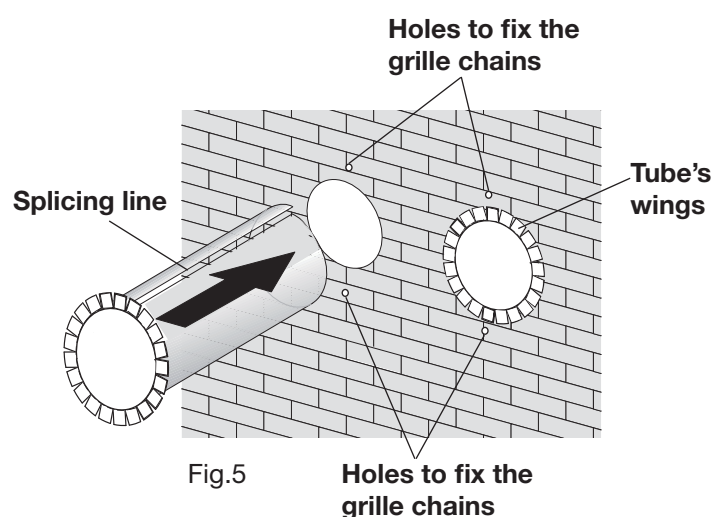

Fig.5
- Insert in the two holes the obtained plastic tubes, paying attention to the splicing line (Fig. 5), which must always face upwards.
- Pull the chain, tensioning the spring, and fix the chain rings into the holes in the wall (fig. 5 - 6) using the supplied screws with washer.